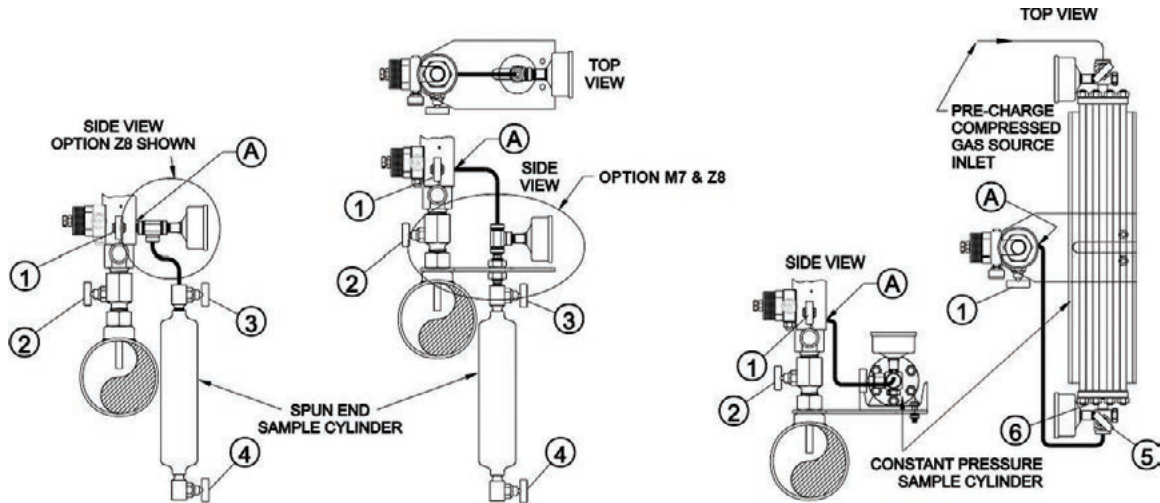

Figure 23: Bottle Change-Out Procedure
3.1 Start-Up Procedure (refer to Figure 23)
3.2 Bottle Change-Out Procedure (refer to Figure 23)